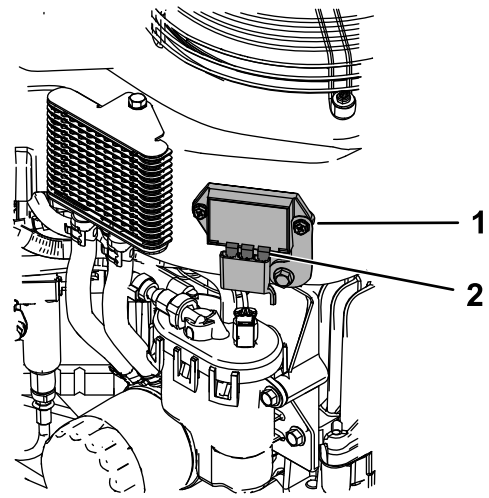

Figure 34
4. Lightly apply grease to the voltage regulator blades (Figure 34).